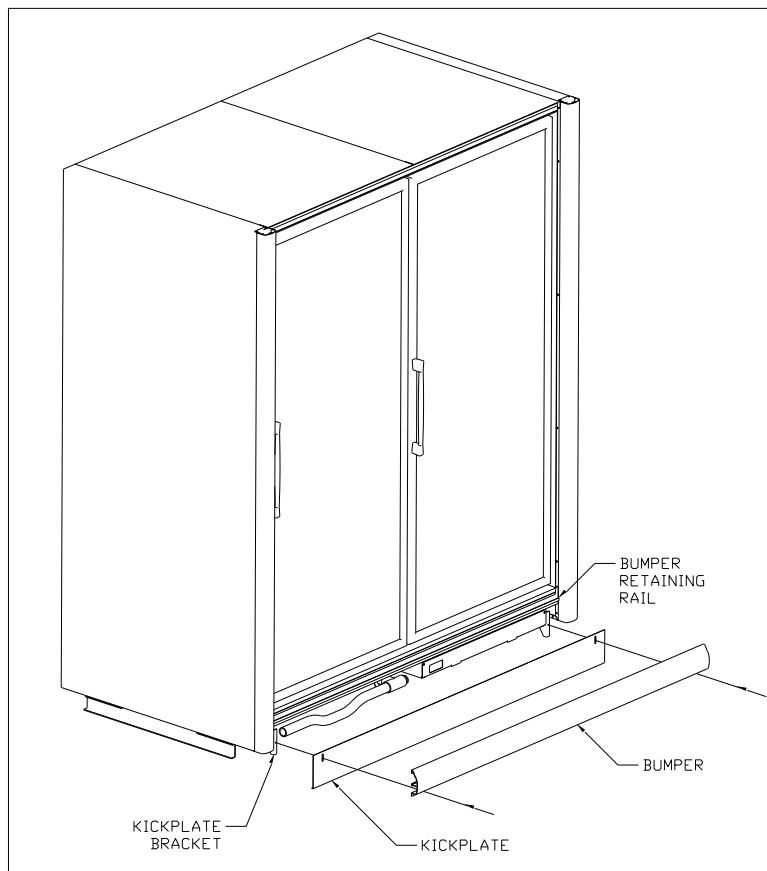
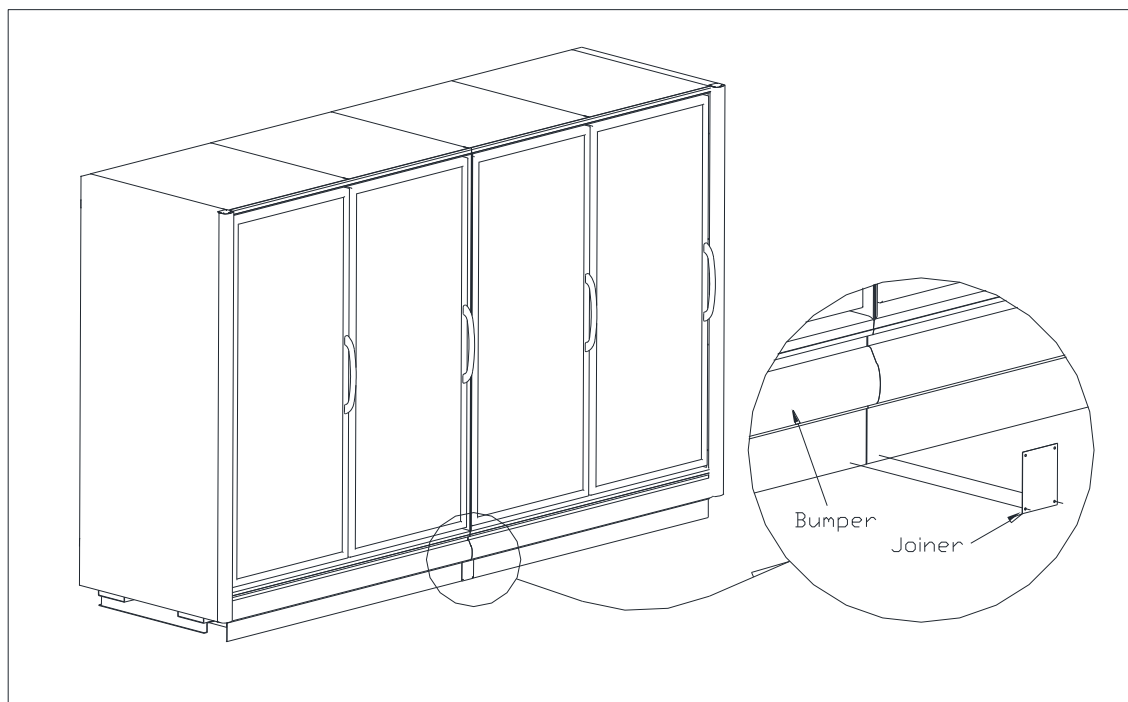

Figure 4 – Kickplate installation
Figure 5 – Kickplate joiner details
Install the kickplate behind the bumper and in front of the kickplate bracket. Secure the kickplate by screwing through the pre-drilled bumper holes into the kick plate brackets using the supplied #10x3/4" sheet metal screws. Refer to **Figure 4** for the placement of the kickplate.
To install the kickplate joiner, first make sure that the bumper is removed. Attach the kickplate retainer with the (2) #10x3/4" self-drilling sheet metal screws provided with the kit as shown in **Figure 5**. Rettach the bumper onto the bumper retaining rail and attach with screws as shown in Figure 4.